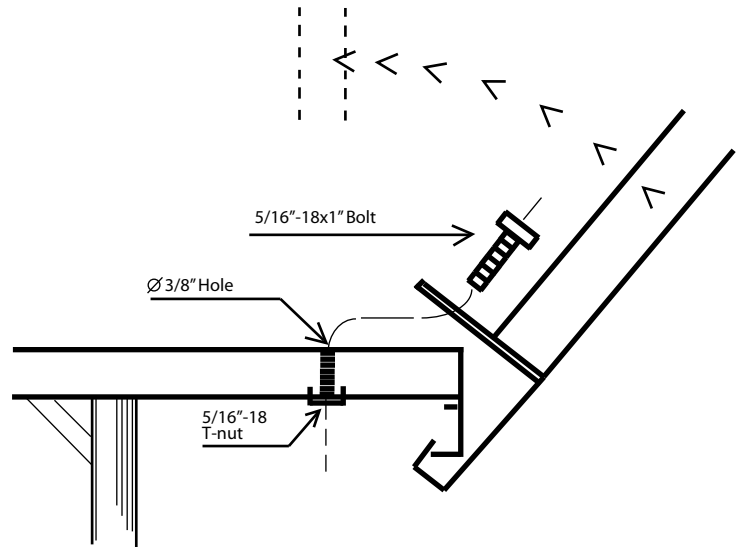

Figure 1
Step 1: Put the guard rail on the stage in the desired position. Hook it onto the edge of the stage platform and rotate it up into place as pictured in Figure 1.